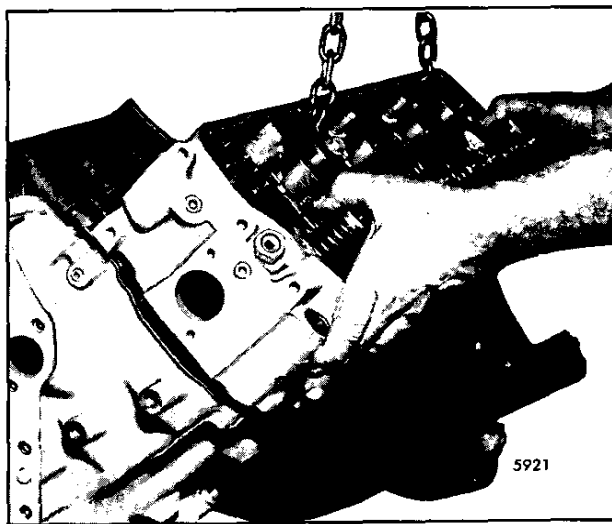

Fig. 4 - Lifting or Installing Cylinder Head
1. Attach a suitable lifting sling (Fig. 4) to the cylinder head and lift the head into position above the cylinder block.